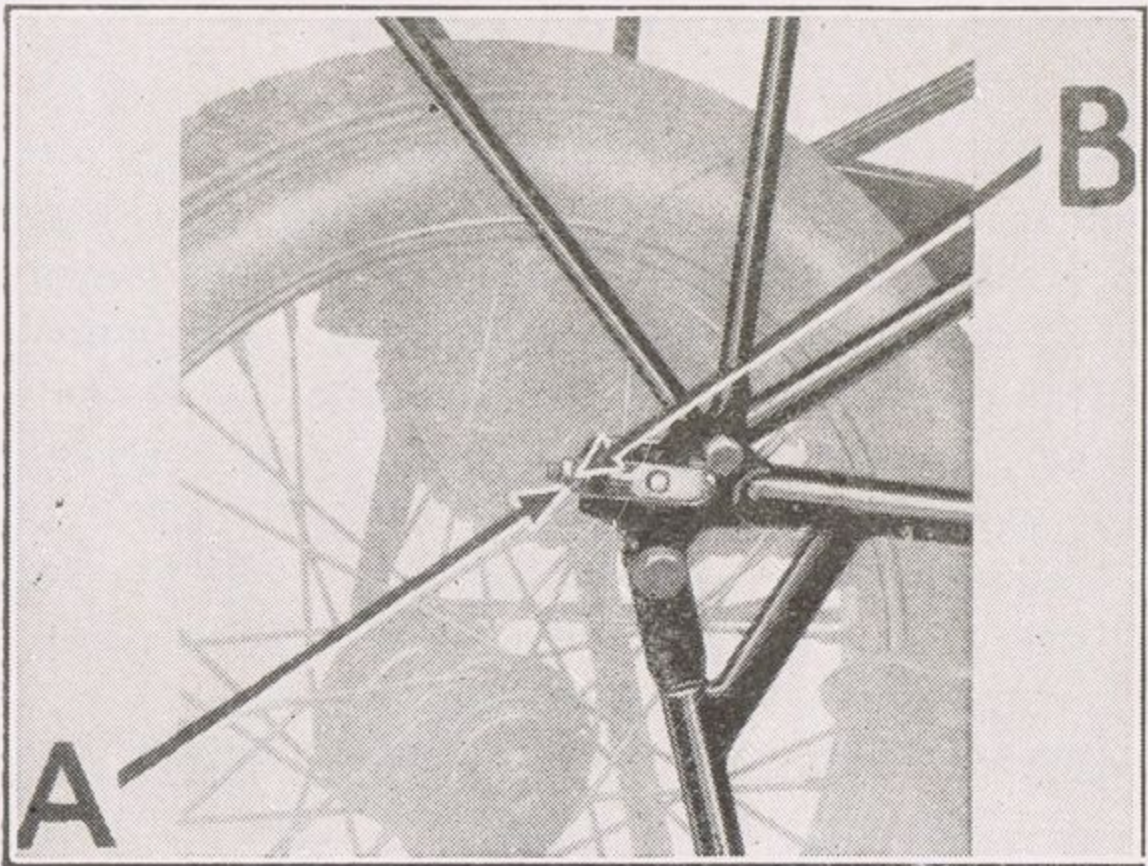

Fig. 19.
**9.86 h.p. (1930-1935).** Slacken the hub spindle nut on each side of the wheel and release the lock-nuts *A* on the adjuster (Fig. 19). Turn nuts *B* alternately, one half turn at a time, until about half-an-inch sag can be felt in the chain through the inspection hole (rear chaincase models only). Retighten spindle nuts and locknuts *A*.